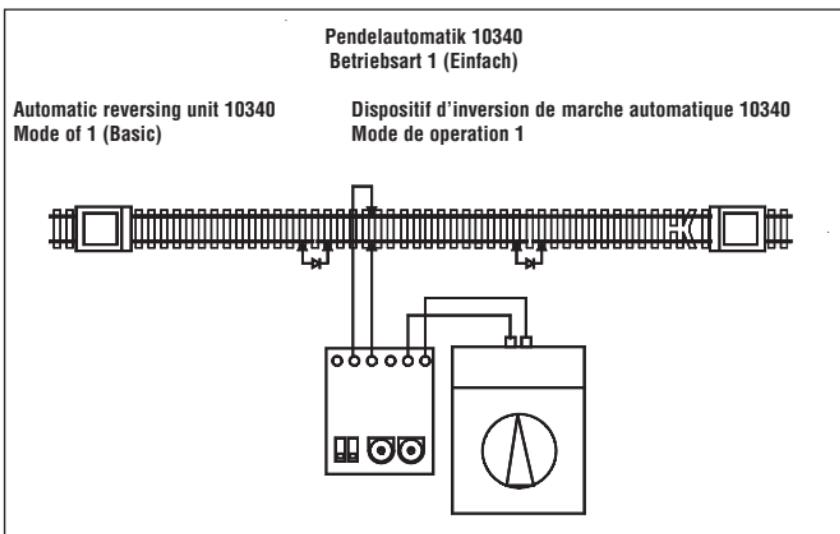

Fig. 2
Preparation (Fig. 2)
2. Use the blue/red track power cable to connect the connectors marked “bl” (blue) and “rt” (red) on terminal “A” of the circuit board to the tracks (Fig. 2).